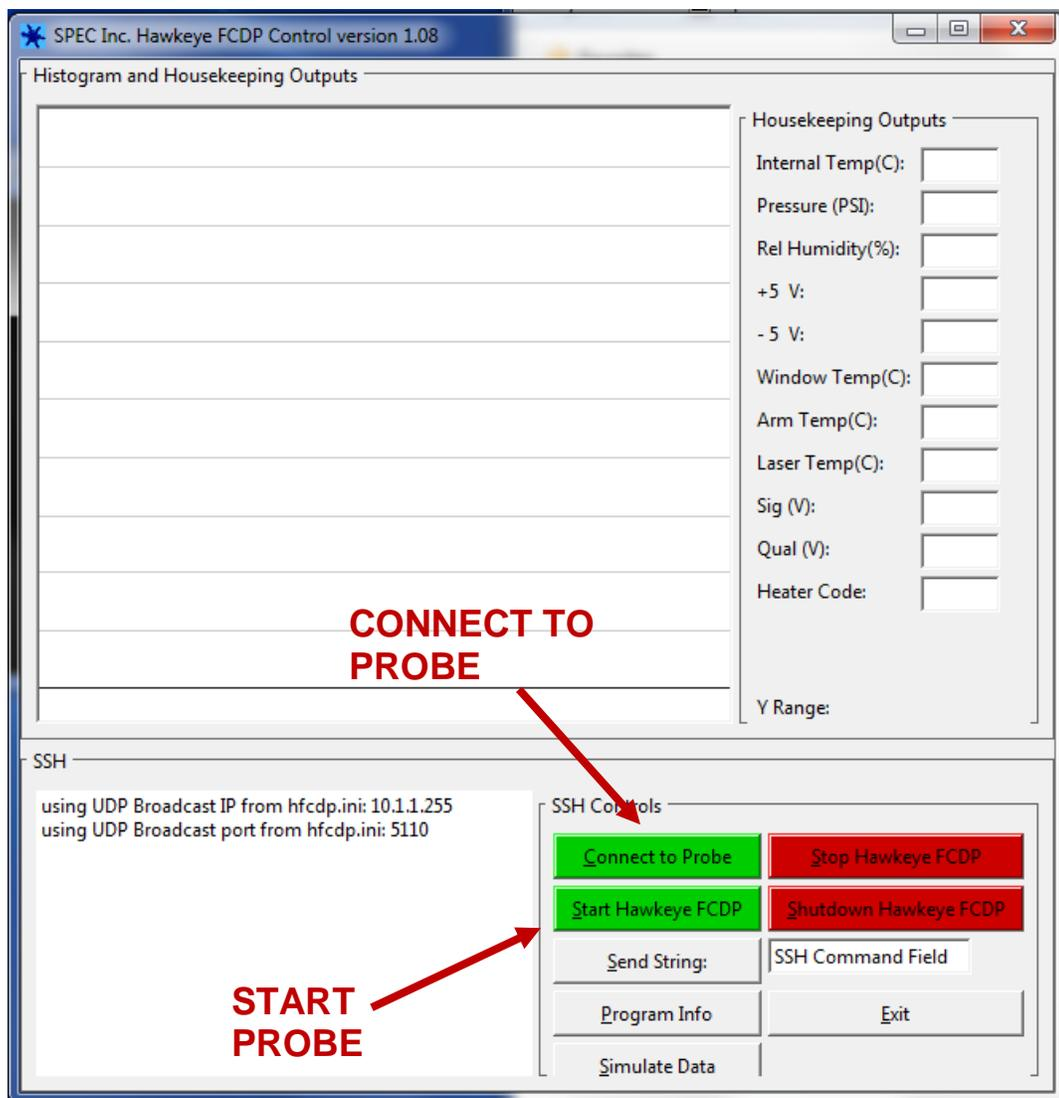

Figure 2.3.7. Startup screen for Hawkeye FCDP GUI.
10. To initialize the connection between the FCDP GUI and the probe, click the green “Connect to Probe” button shown in Figure 2.3.7. This will connect and time sync the probe.
3. To disconnect from the FCDP, click the “Stop Hawkeye FCDP” button (see **Figure 2.3.7**).